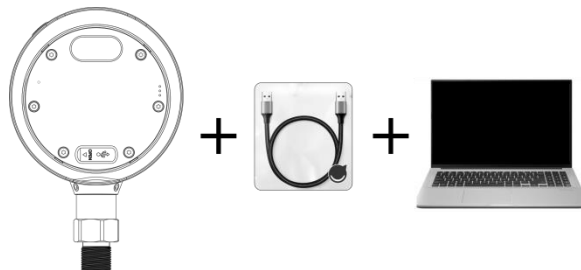

Figure 22 Connect to PC through the adapter
(2) Connect to PC through adapter and USB male-to-male cable, shown in Figure 22;